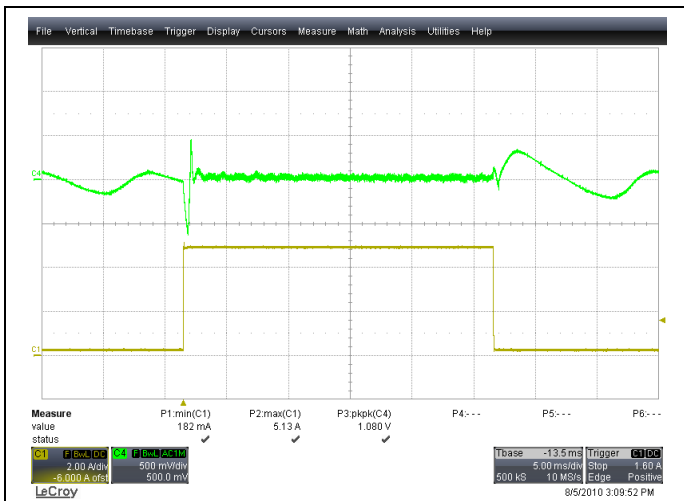
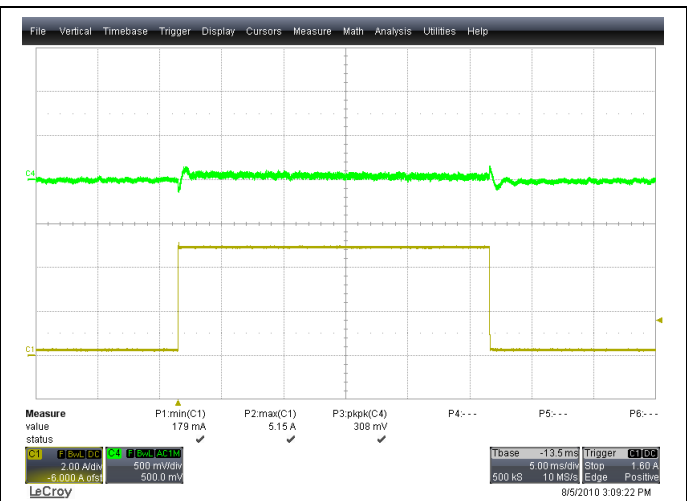

Figure 47 - Transient Analysis, 0.2A - 5A step load, 48VDC, SR disabled at light load
Figure 48 - Transient Analysis, 0.2A - 5A step load, 48VDC, SR enabled at light load
**C. Transient Response under DCM/CCM transition:** Figure 47 shows the dynamic response of the system under a load step of 0.2-5A (slew rate 1A/μs). A low starting current is chosen so that the converter is forced to disable the synchronous rectifiers due to the light load threshold setting in the CS2 window. In contrast, Figure 48 shows the response with the light load threshold set at 0A (SR always on). This forces the output inductor current to be continuous and the converter remains in CCM despite the load condition drawing energy from the output capacitor to charge the inductor.